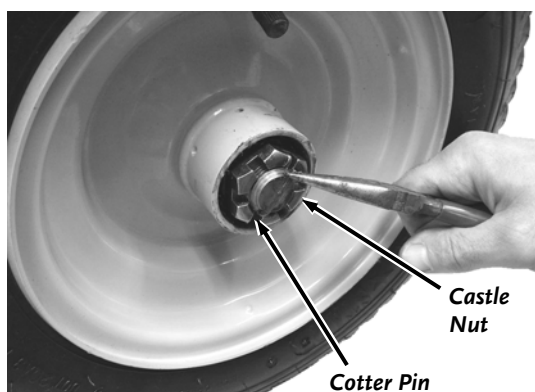

Figure 61
12. Screw the Castle Nut onto the Axle and tighten it with an adjustable wrench to seat the Bearings (**Figure 61**).